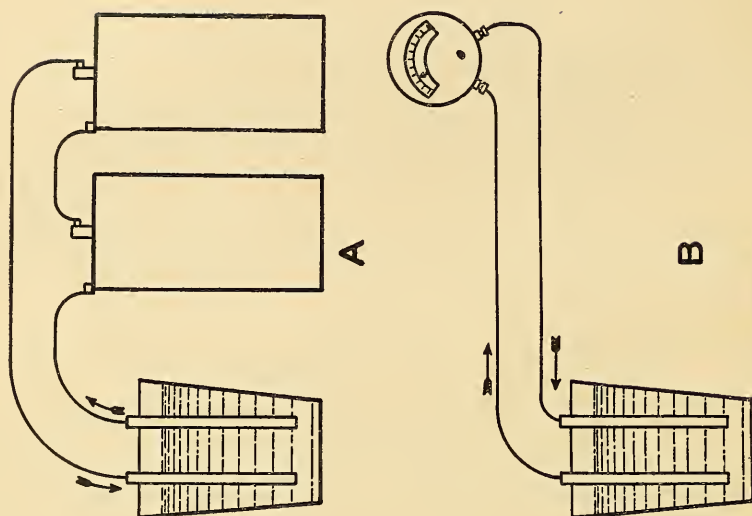

Fig. 2
10. Let us carry our investigation a bit further. We substitute for our solution of salt and water one composed of sulphuric acid and water, and instead of using platinum wires in the solution we immerse strips of lead (A—Fig. 2).
12. Now, if we disconnect the source of current and attach our measuring instrument, or voltmeter, to the conductors leading to the apparatus described, we find that an electric current flows for a considerable length of time (B—Fig. 2).